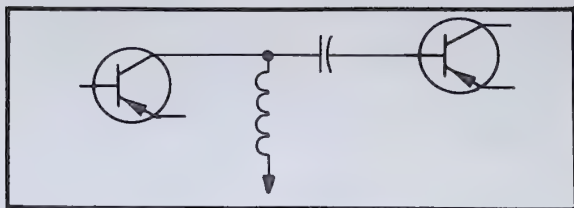

Fig. 10-55. Graphic for Question 10-51.
**10-51 Which of the following describes the type of coupling between stages in the circuit shown in Fig. 10-55?**